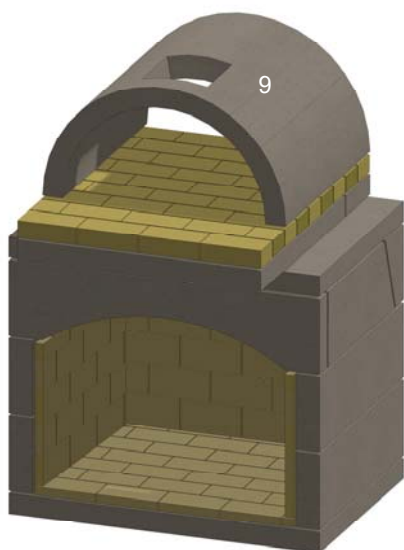

Figure 22. Oven Roof
P. Install oven roof piece (9), aligning it with the rear edge of the oven floor. See Figure 22.